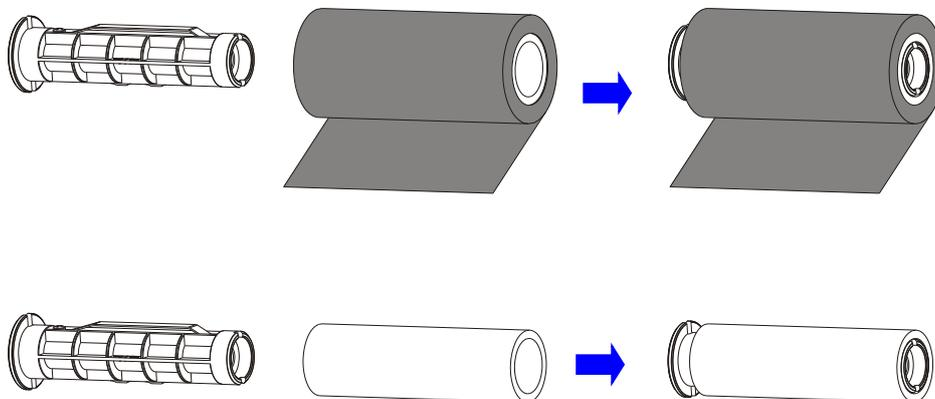

Figure 2-6 Place Ribbon Roll and Spare Core on Ribbon Spindles
4. Slide the ribbon roll onto one of the Ribbon Spindles and place the spare core onto the other spindle, see Figure 2-6.